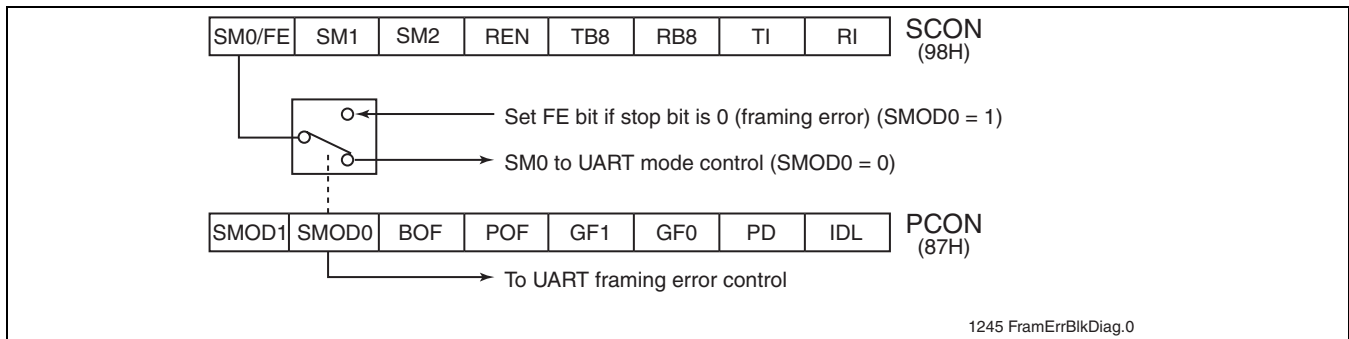

FIGURE 11-1: Framing Error Block Diagram
Framing Error Detection is selected in the PCON register by setting SMOD0 = 1, see Figure 11-1. If a stop bit is missing, the Framing Error bit (FE) at SCON[7] will be set. The software examines the FE bit after each received bit to check for data errors. After the FE bit is set, it can only be cleared by software. Valid stop bits do not clear the FE bit. When Framing Error Detection is enabled, RI rises on the stop bit, instead of the last data bit. See Figures 11-2 and 11-3.